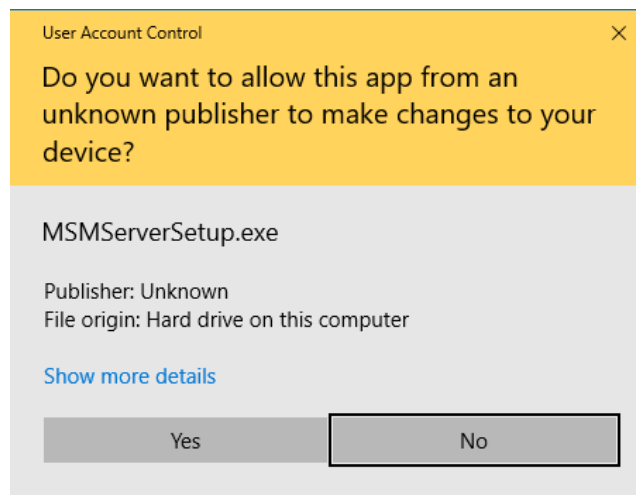

Figure 1
3. Open "MSMServerSetup.exe" and click "Yes" or "Run" if the warning regarding "unknown publisher" appears (Figure 1).